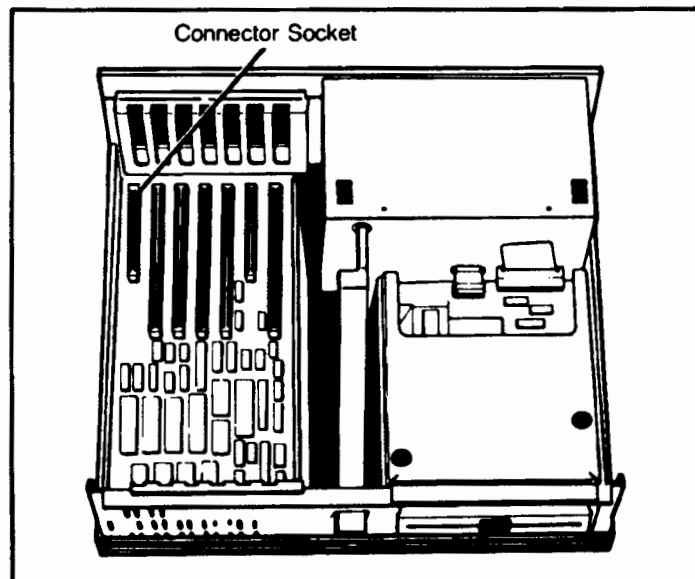

Figure 3-5. Accessory Card Slots
4. Choose any empty card slot, but preferably one with a short connector socket. See figure 3-5.